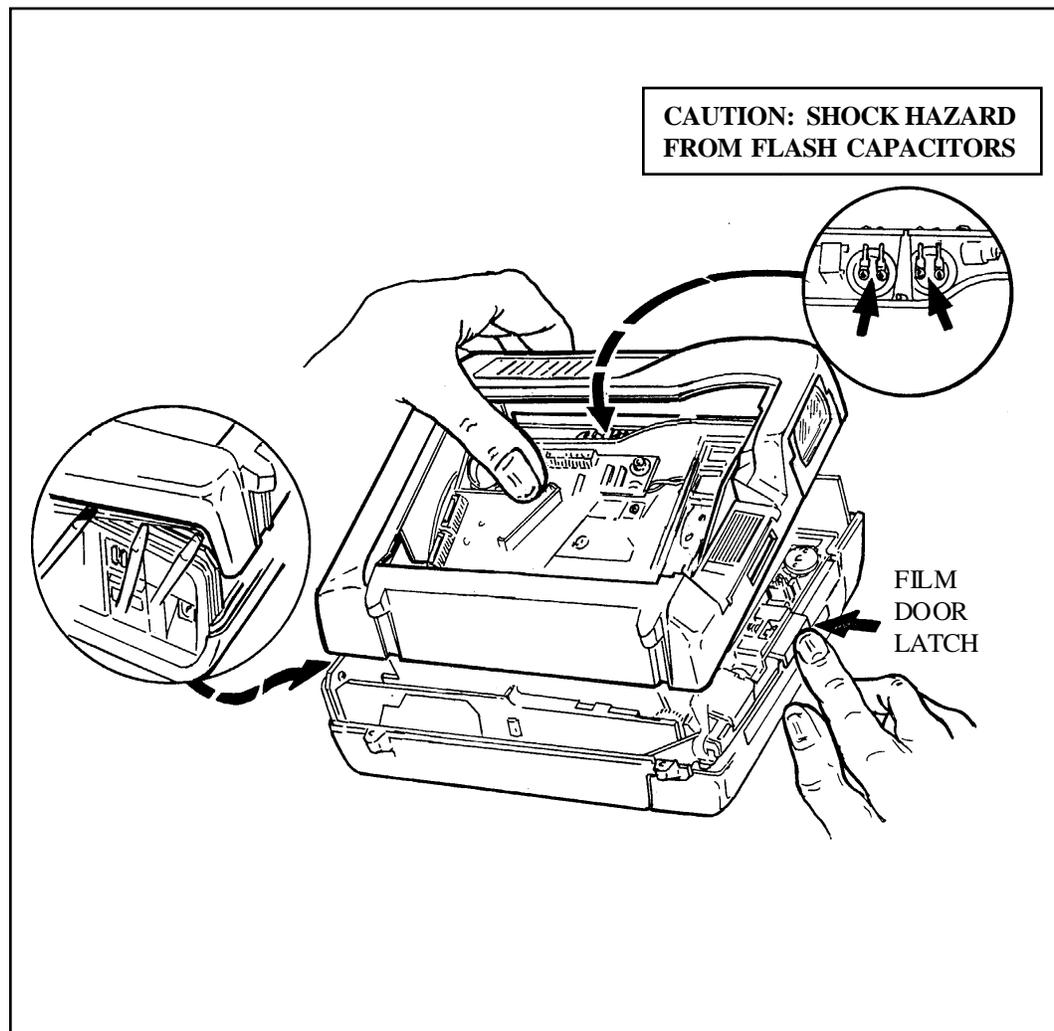

Figure 3-4. Removing Mid Cover (Note Exposed Flash Capacitor Terminals)
Caution: Keep fingers away from right (strobe) side of ProCam when lifting off the Mid Cover — Flash capacitor connections are exposed (Figure 3-4).
- e. Remove Mid Cover but leave Bottom Cover in place (Figure 3-4). Lift back of Mid Cover first; Push in button marked **FILM** (Door Latch) and lift off the Mid Cover.